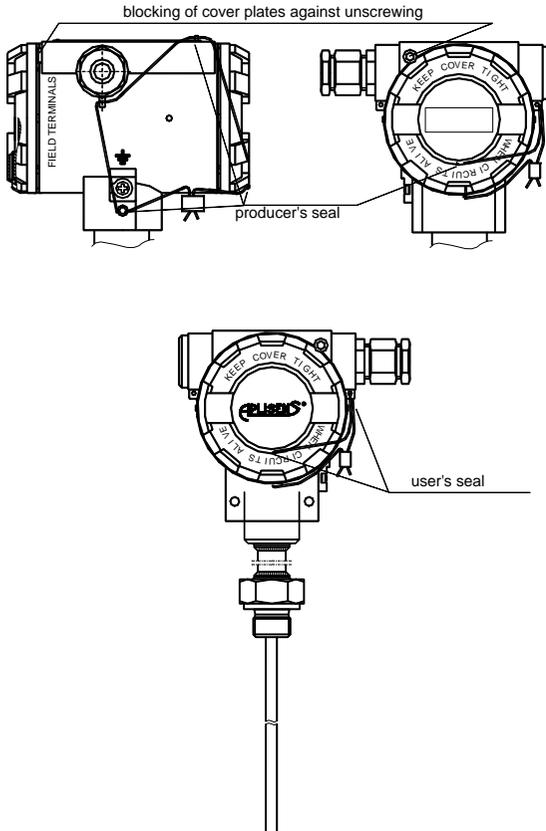

Fig 1c. APT-2000ALW in MID application. Sealed up transmitter.
**8.2. Blocking by the gas volume conversion manufacturer.** Turn on the "spec MID locking" with local buttons using local menu of transmitter (see point 9.2.4 User's Manual, MID\_WP – "ON"). Put the seals of the gas volume conversion producer on the electrical connection cover, screw of a sensor head and a label if it is metal made. Places of seals application is shown by the arrows at Fig.1c. Seal should be made in accordance with the documentation of gas volume conversions in the place/country their use.